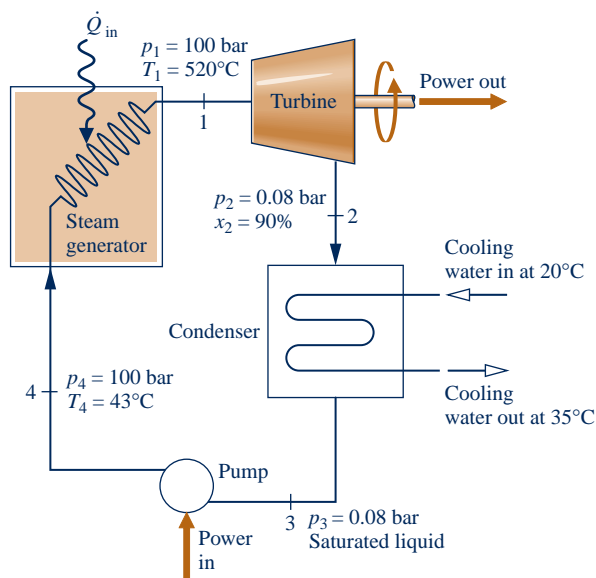

Fig. P6.165
6.165 Figure P6.165 shows a simple vapor power plant operating at steady state with water as the working fluid. Data at key locations are given on the figure. The mass flow rate of the water circulating through the components is 109 kg/s. Stray heat transfer and kinetic and potential energy effects can be ignored. Determine